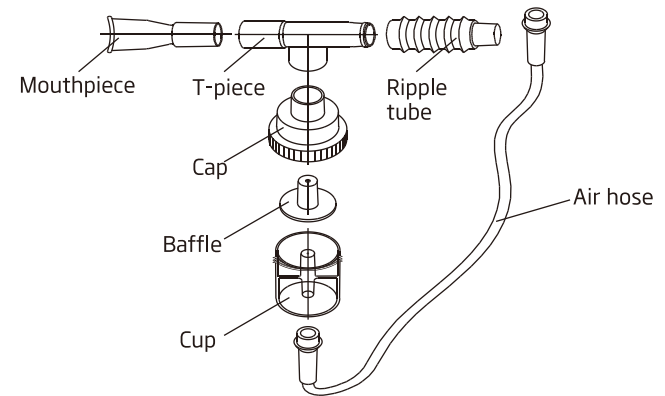

Figure 11
- Pull out the air hose, pull the mouthpiece, downward pull the nebulizing cup's cap, empty remained medicinal liquid in the nebulizing cup, then wash the air hose, mouthpiece, nebulizing cup's cap, nebulizing baffle, nebulizing cup, ripple tube, T-piece, etc , with pure water or immerge them in warm water for about 15 minutes(Figure 11). In order to wash them properly, you may add some vinegar in water.